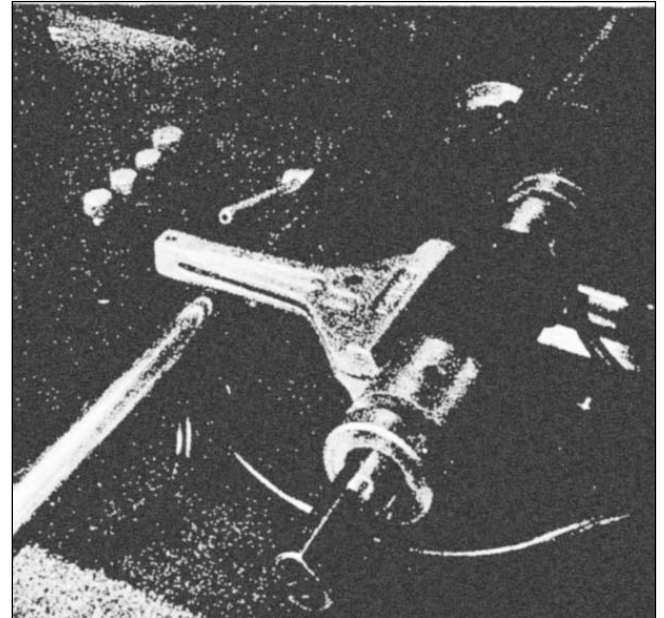

**Figure 16, Holding Fixture**
**FIGURE 16:** SELF-LOCKING HOLDING FIXTURE FOR SHORT LENGTH CAM ROLLER. This fast-operating self-locking fixture paid off in increased production on a hardened steel roller. Note that for rapid locking and unlocking, the right end of the fixture is inserted in a stationary holder for leverage.